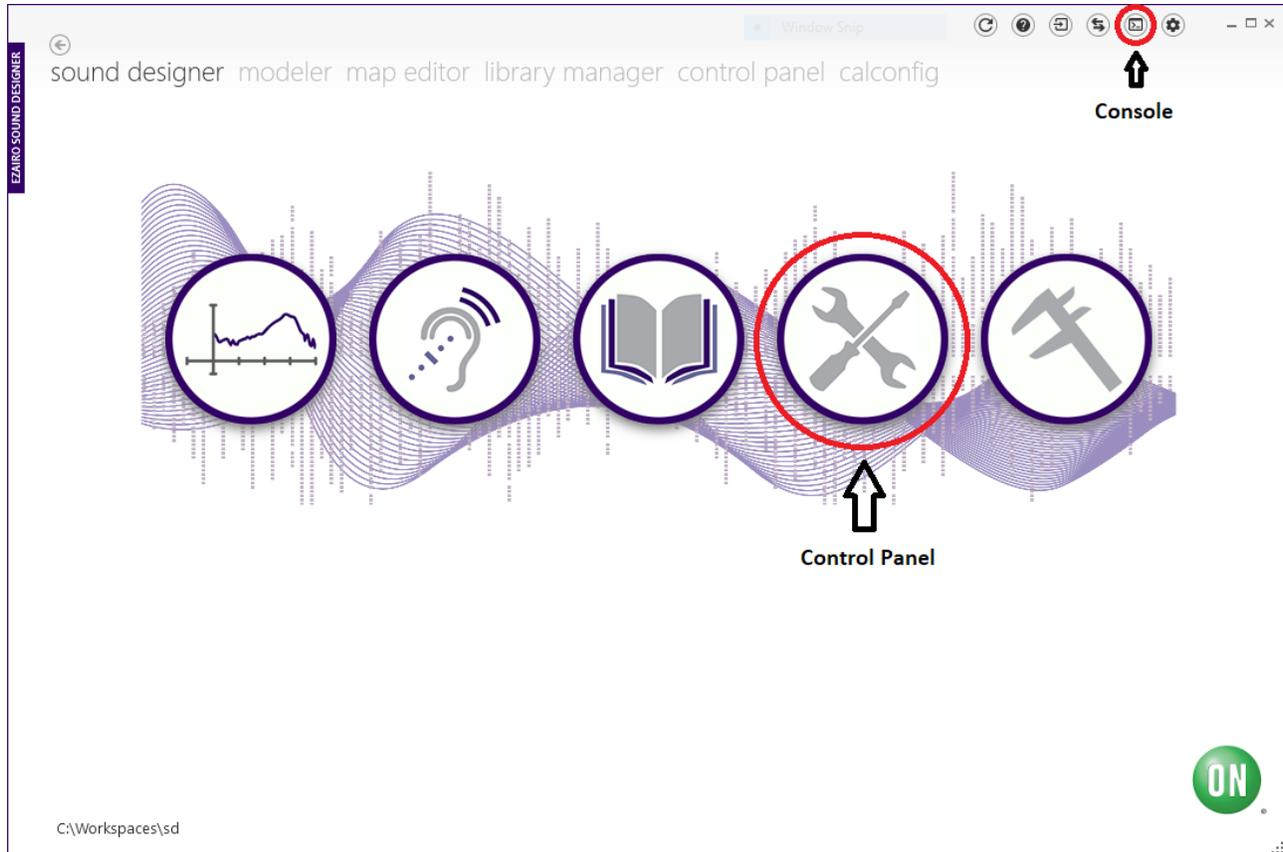
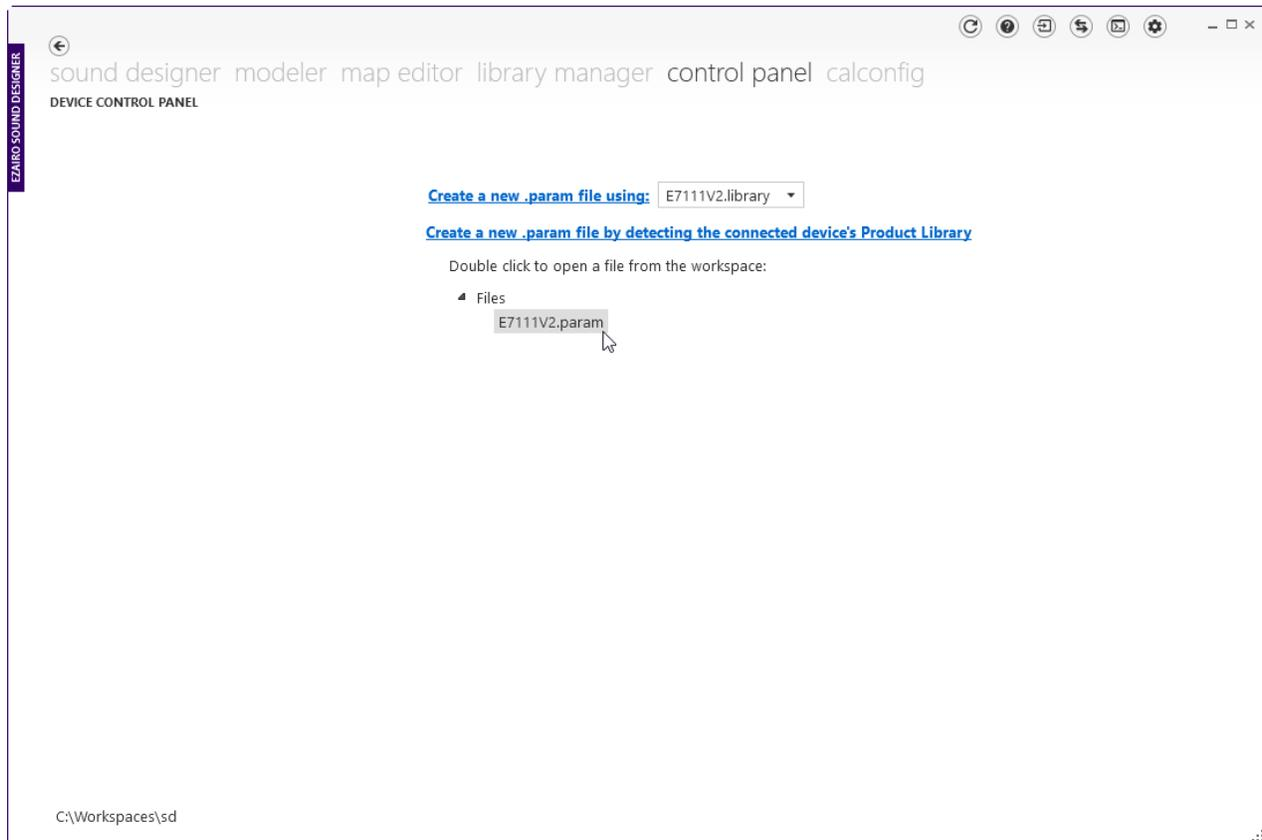

Figure 7. Opening the Control Panel and the Console Window
Figure 8. Selecting the Parameter File
- Optionally, open the console window by clicking the Show Console icon (shown in the figure "Opening the Control Panel and the Console Window" (Figure 7)). The console window displays error and status messages accumulated in this session. We recommend having the console viewable at all times while using Sound Designer Software, to get immediate status information.
- To configure device parameters, click on the **Control Panel** icon (circled in red in the figure "Opening the Control Panel and the Console Window" (Figure 7)) and, when prompted, double-click the **Ezairo7111V2.param** sample parameter file to open the demo product library, as shown below in the figure "Selecting the Parameter File" (Figure 8).